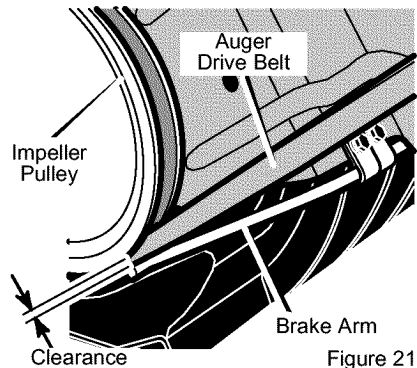

Figure 21
7. To remove the **auger drive belt** from the **impeller pulley**, move the idler arm to the engaged position. This will provide **clearance** between the **impeller pulley** and the **brake arm** to remove the **auger drive belt** (See Figure 21).